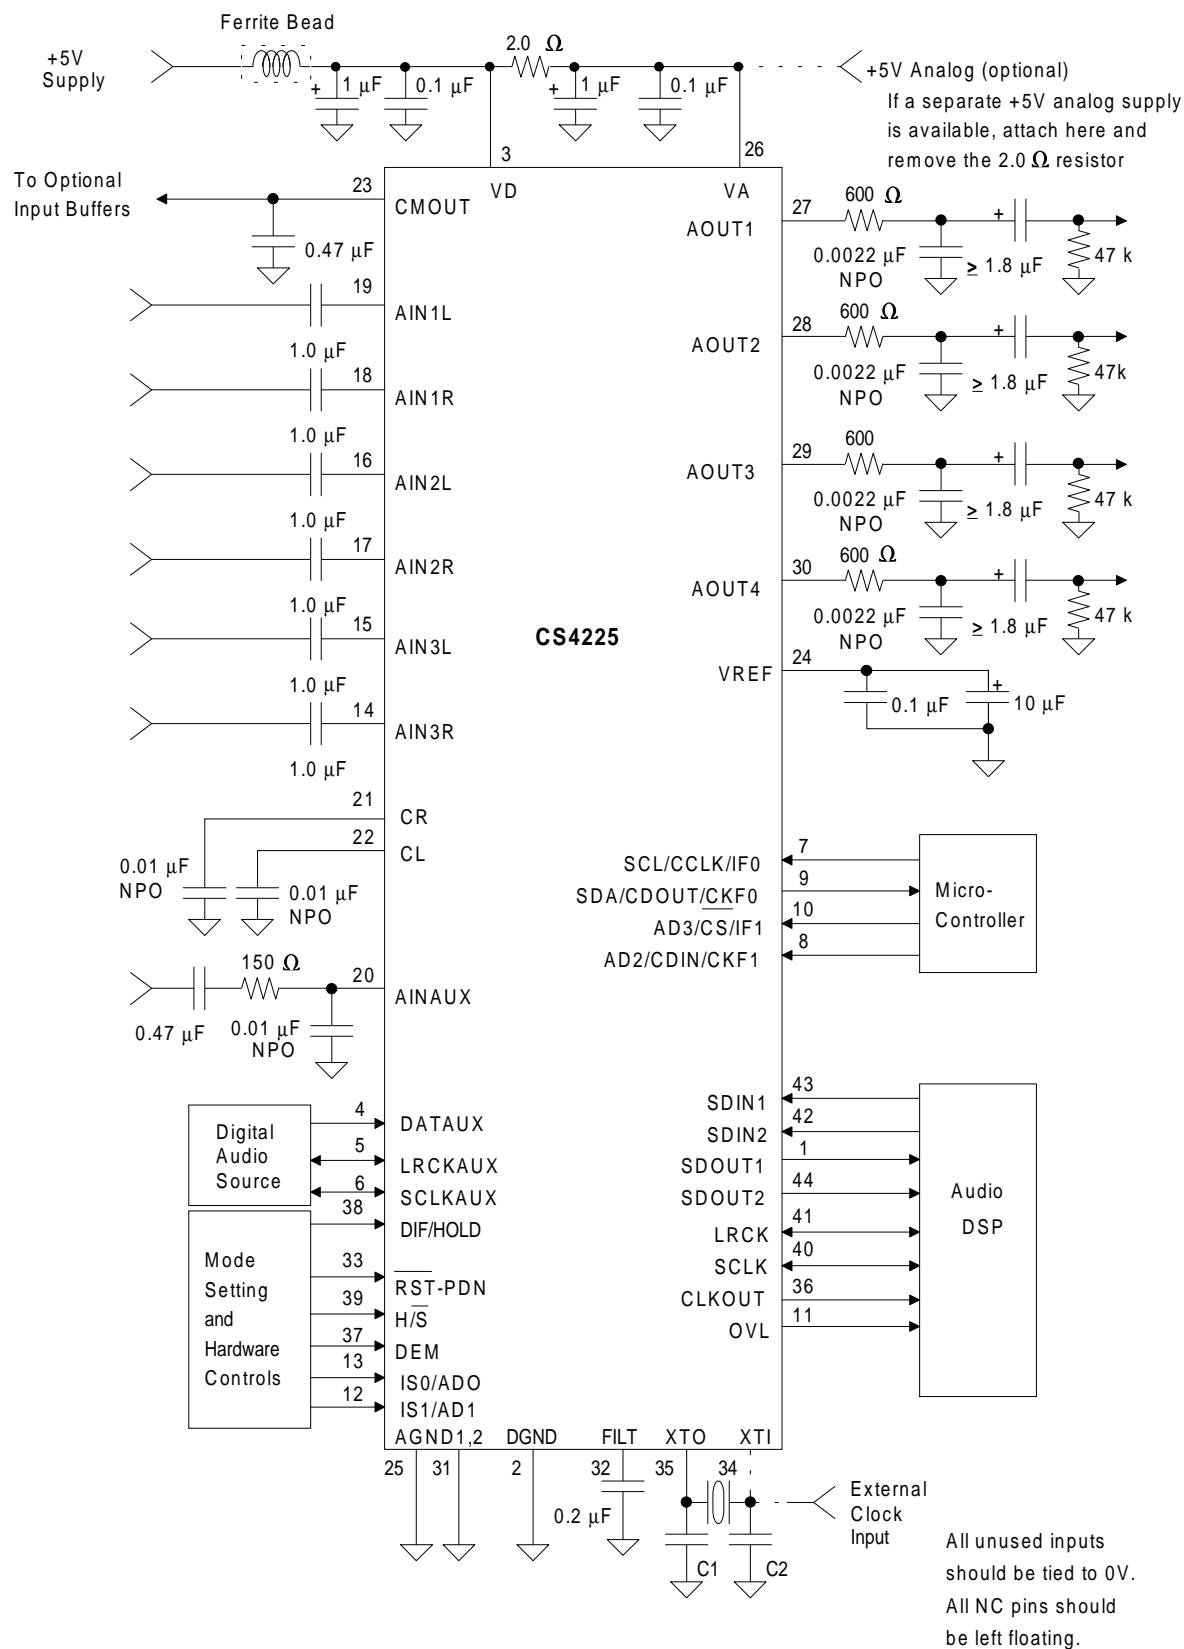
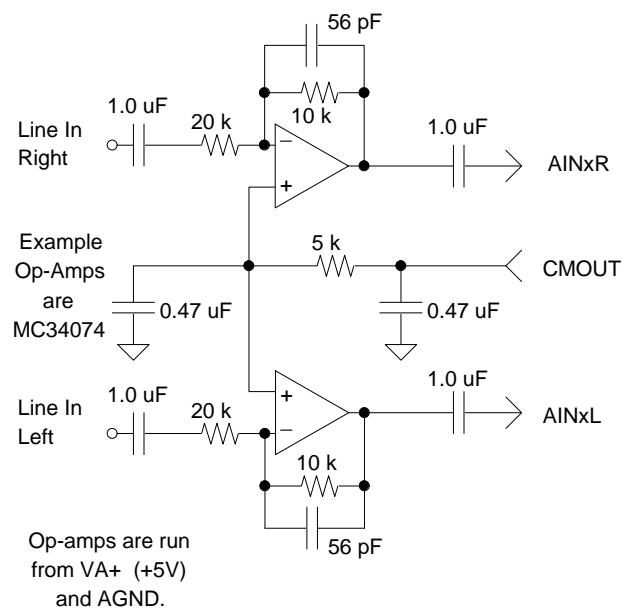

Figure 1 - Recommended Connection Diagram
Figure 2 - Optional Line Input Buffer
Digital audio data for the DACs and from the ADCs is communicated over a serial port. Separate pins for input and output data are provided, allowing concurrent writing to and reading from the device. Control for the functions available on the CS4225 are communicated over a serial microcontroller style interface, or may be set via dedicated mode pins. Figure 1 shows the recommended connection diagram for the CS4225.
AIN1R, AIN1L, AIN2R, AIN2L, AIN3R, AIN3L and AINAUX are the line level input pins (See Figure 1). These pins are internally biased to the CMOUT voltage (nominally 2.1V). A  $1\mu\text{F}$  DC blocking capacitor allows signals centered around 0V to be input. Figure 2 shows an optional dual op amp buffer which combines level shifting with a gain of 0.5 to attenuate the standard line level of  $2\text{V}_{\text{rms}}$  to  $1\text{V}_{\text{rms}}$ . The CMOUT reference level is used to bias the op amps to approximately one half the supply voltage.
The analog signal is input to the 12-bit ADC via the AINAUX pin. An antialiasing filter of  $150\Omega$  with  $0.01\mu\text{F}$  to ground is required (See Figure 1) along with a series DC blocking capacitor. The AINAUX signal is normally routed to the 12-bit ADC. This signal may also be routed to the Left 16-bit ADC (replacing the selected left input), under control of the AIM bit in the 12-bit ADC Mode Byte. In this mode, the input antialiasing filters and gain adjustment operates on the AINAUX signal.
AOUT1, AOUT2, AOUT3 and AOUT4 output a 1Vrms level for full scale, centered around +2.1V. Figure 1 shows the recommended 1.0 $\mu$ F dc blocking capacitor with a 40k $\Omega$  resistor to ground. When driving impedances greater than 10k $\Omega$ , this provides a high pass corner of 20Hz. These outputs may be muted.
The CS4225 requires a high frequency (256 Fs) clock to run the internal logic. The Clock Source bits, CS0/1/2, in the Clock Mode Byte determine the source of the clock. A high frequency crystal can be attached to XTI and XTO, or a high frequency clock can be input into XTI. In both these cases, the internal PLL is disabled, with the VCO shut off. The externally supplied high frequency clock can be 256 Fs, 384 Fs or 512 Fs. The CI0/1 bits in the Clock Mode Byte must be set accordingly. When using the on-chip crystal oscillator, external loading capacitors are required (see Figure 1). High frequency crystals (> 8 MHz) should be parallel resonant, fundamental mode and designed for 20pF loading (equivalent to 40pF to ground on each leg). An example crystal supplier is CAL crystal (714) 991-1580.